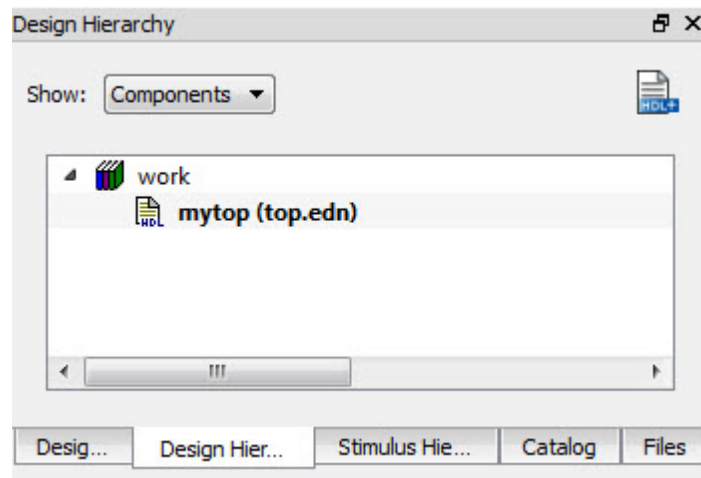

Figure 5-1 • Root Module in Design Hierarchy
- a. In the Design Hierarchy window, note the name of the root module (shown in bold in Figure 5-1). >